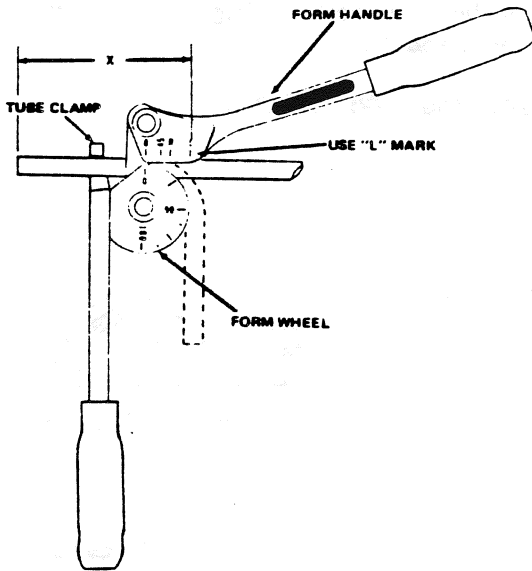

Figure 10.43.
2. Position tube in bender as shown in Figure 10.43. If the end from which you measured is left of the tube clamp, the measured mark should be directly over graduation "L" located on the right side of the form lever and shown in Figure 10.43.